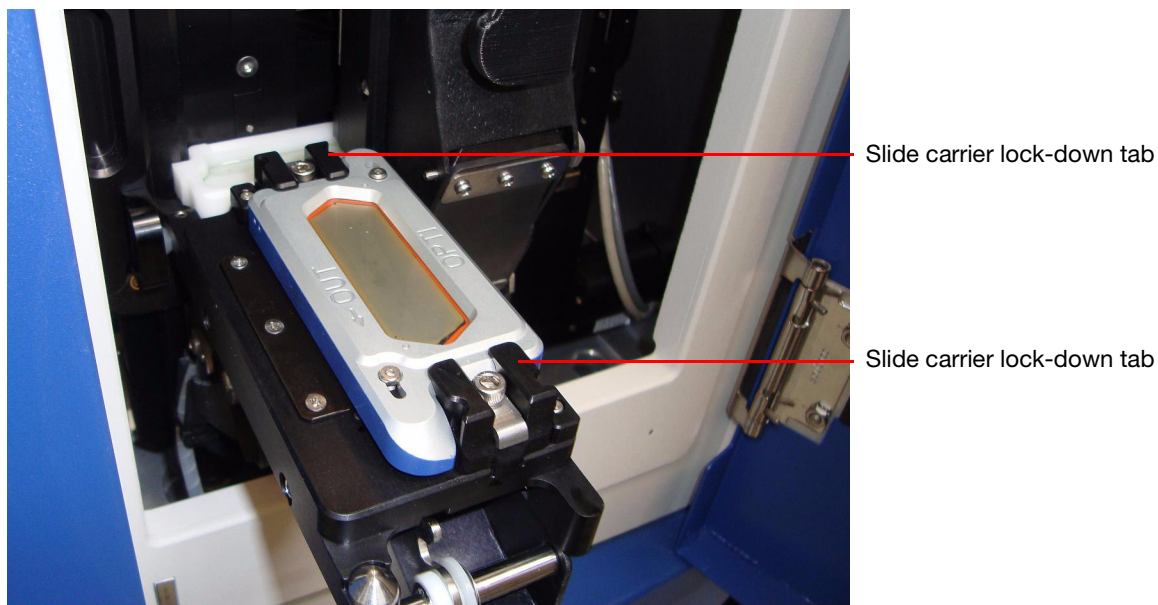

Figure 20 Slide carrier lockdown tabs.
- c. Slide the two slide carrier lock-down tabs on the flowcell inward until they are positioned over and flush with the carrier (see Figure 20).